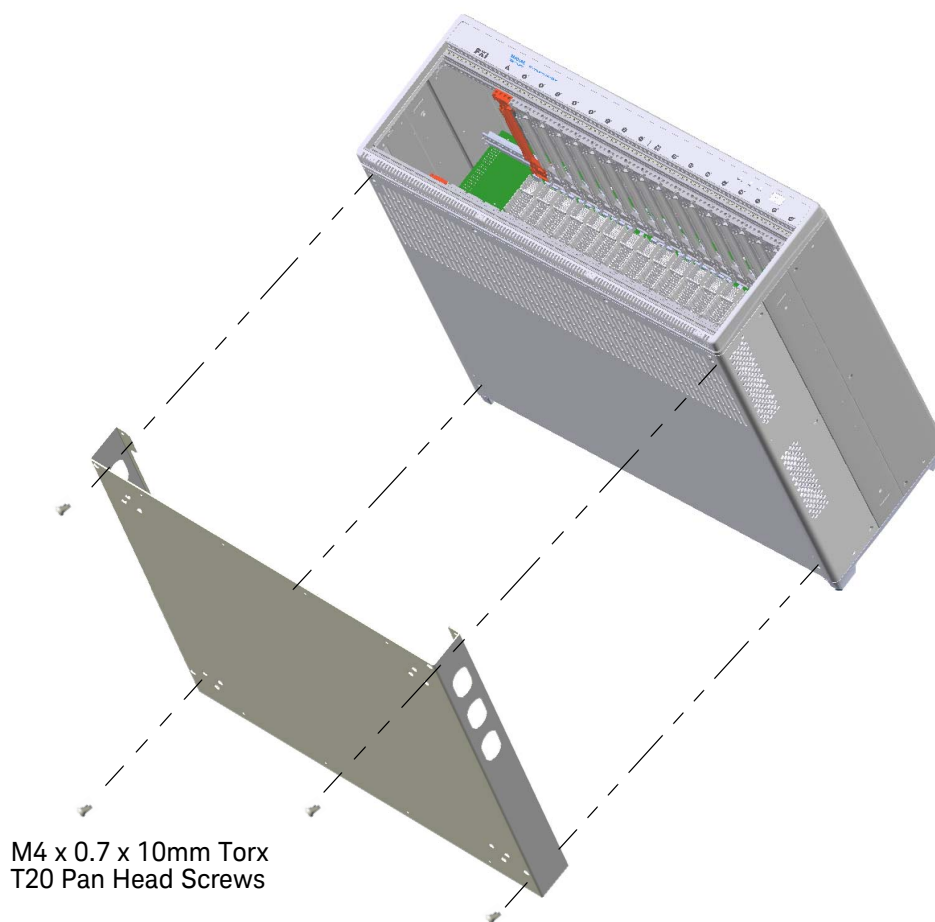

Figure 2 Installing the Cable Tray
- 4 Attach the cable tray to the chassis as shown in Figure 2 using the four M4 x 0.7 x 10 T20 Torx pan head screws supplied in the kit. The screws go into the screw holes where you removed the plastic feet.